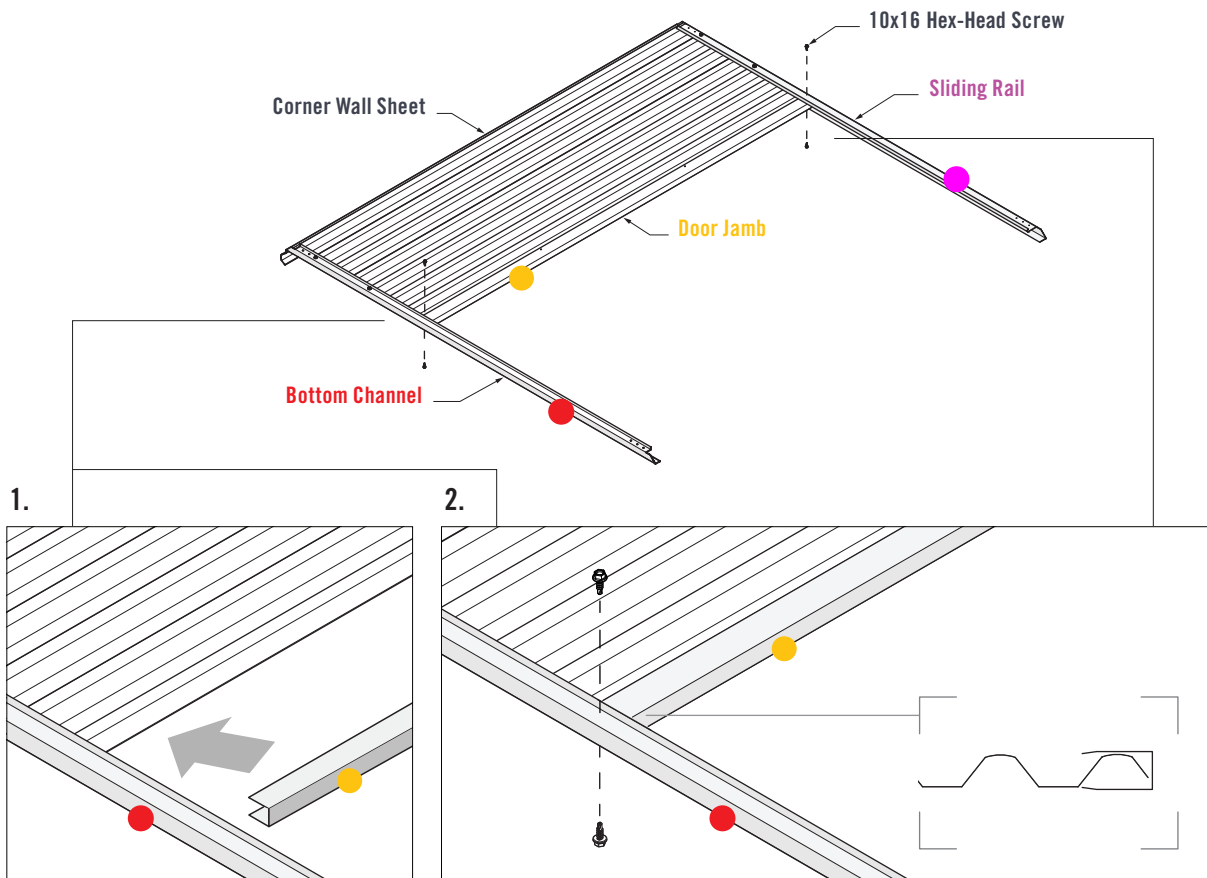

FIGURE 4.3
1. Fit the **Door Jamb** over the **Corner Wall Sheet**, ensuring it is inside the **Bottom Channel** and **Sliding Rail** (Figure 4.3).
2. Fasten two **10x16 Hex-Head Screws** through the pilot holes of the **Sliding Rail** and into the **Door Jamb**. Fasten two **10x16 Hex-Head Screws** through the **Bottom Channel** and into the **Door Jamb** (Figure 4.3).